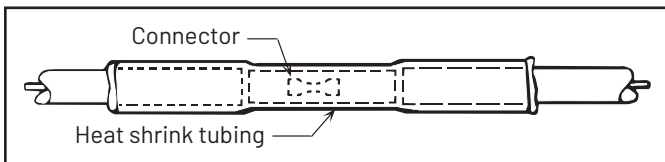

Figure 4-6: Heat-Shrink Tubing Applied
- E. Center tubing over butt connector and apply heat evenly with a torch. A match or lighter does not supply enough heat (Figure 4-6). Keep torch moving. Too much concentrated heat may damage tubing.